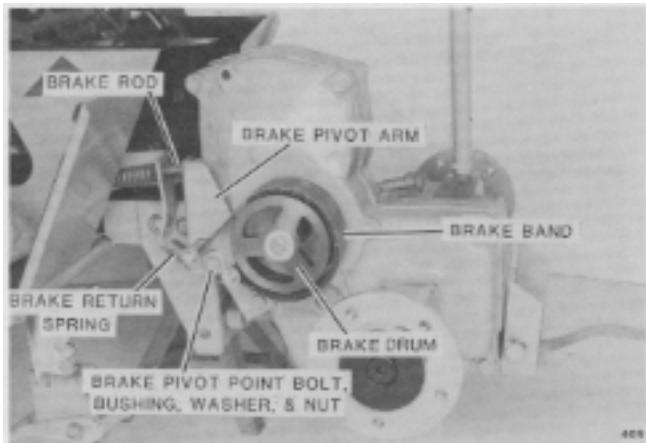

FIG. 24. Wheel Hubs, Brake Pivot Hardware
12. Remove brake bracket pivot bushing, washer and nut (Fig. 24). Remove brake band and linkage assembly from brake drum.
2. Remove brake bracket pivot bushing, washer and nut (Fig. 24). Remove brake band and linkage assembly from brake drum.